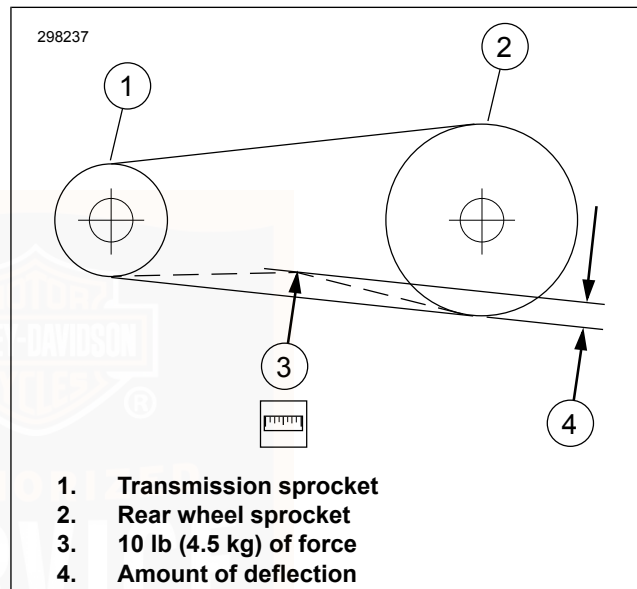

Figure 69. Checking Belt Deflection
- b. **All other models:** See Figure 69. Measure amount of deflection (4) while holding gauge steady.